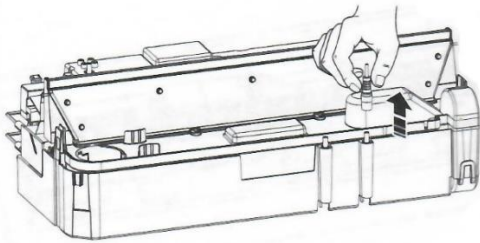

Fig 30
4. Disconnect the electrical connectors to the transducers, located on the right side of the sump (Fig. 30).